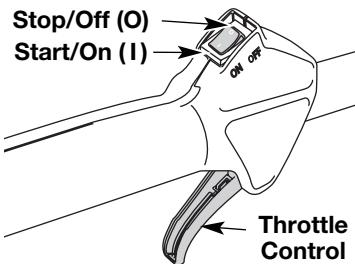

Fig. 4
- NOTE:** There is no need to turn the unit on. The On/Off Stop Control (Fig. 4) is in the ON (I) position at all times.
2. Press and hold On/Off Stop Control in the OFF (O) position until engine comes to a complete stop (Fig. 4).